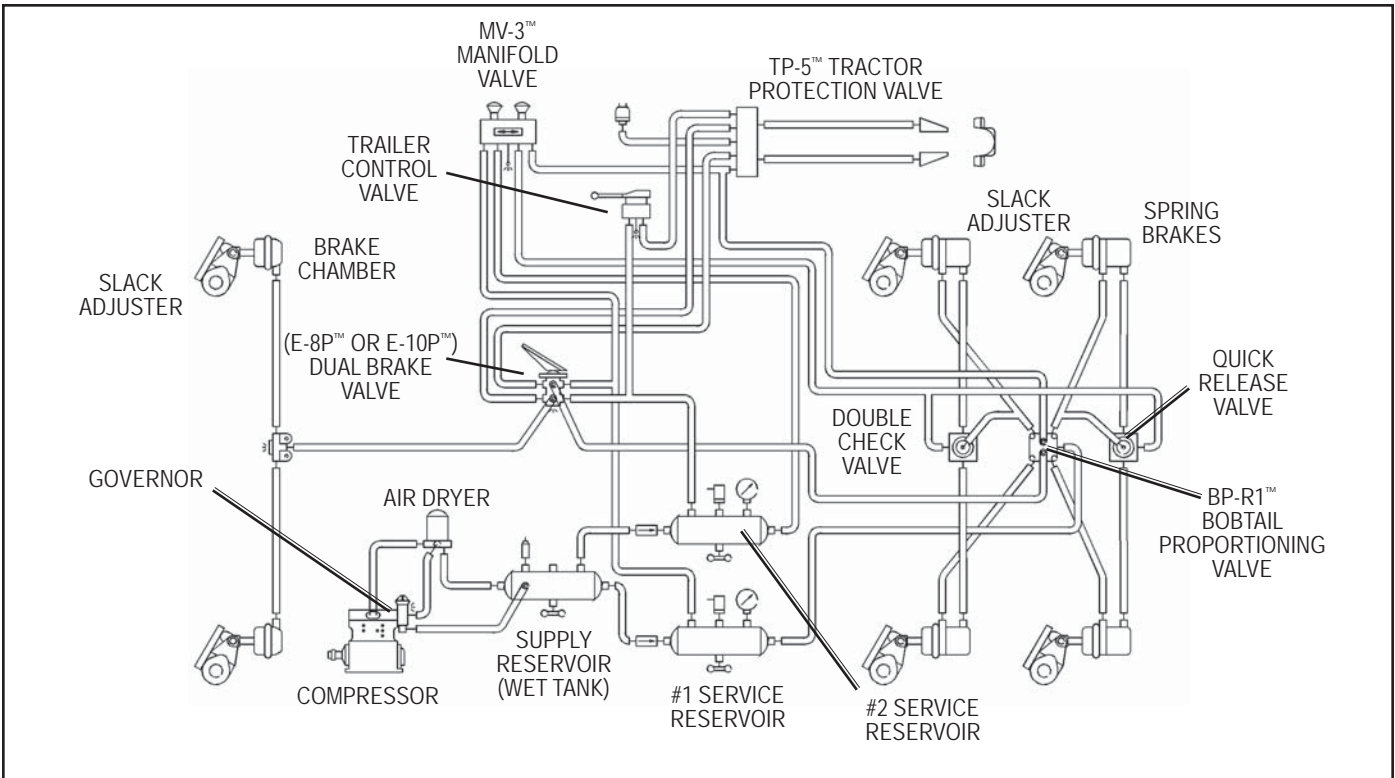

FIGURE 3 - TYPICAL PIPING SCHEMATIC
## **OPERATION** - Refer to Figure 3
2. Remove the screw (9) securing the exhaust diaphragm (10) and washer (11) to the exhaust cover (12).
3. Remove the four screws that secure the exhaust cover (12) to the lower body.
4. Remove the secondary inlet and exhaust valve assembly (13) from the lower body.
6. Remove the rubber seal ring (14) from the lower body.
7. **For E-8P™ valve only:** While applying thumb pressure to the primary piston (22), lift out and up on the three lock tabs of the primary piston retainer (15).
8. **For E-10P™ valve only:** While depressing spring seat (7), remove retaining ring (8). Remove spring seat (7) and coil spring (5).
**Caution:** Before proceeding with the disassembly, refer to Figures 3 and 4 and note that the lock nut (16) and stem (17) are used to contain the primary piston return spring (**for E-8P™ valve:** 23, **for E-10P™ valve:** 6), stem spring (19), and the relay piston spring (21). The combined force of these springs is approximately 50 pounds and care must be taken when removing the lock nut as the spring forces will be released. It is recommended that the primary piston and relay piston be manually or mechanically contained while the nut and stem are being removed.
9. Using a 3/8" wrench, hold the lock nut (16) on the threaded end of the stem (17). Insert a screwdriver to restrain the stem, remove the lock nut (16), spring seat, (18) and stem spring (19).
10. **For E-10P™ valve only:** Remove adapter (1) and o-ring (4). Remove the primary piston (2) from adapter (1) and o-ring (34) from the primary piston (2).